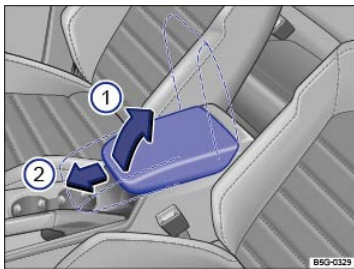

Fig. 86 Front center armrest.
To raise the center armrest, push the release button, pull the armrest up, and latch upward in the direction of the arrow ⇒ *Fig. 86①*.